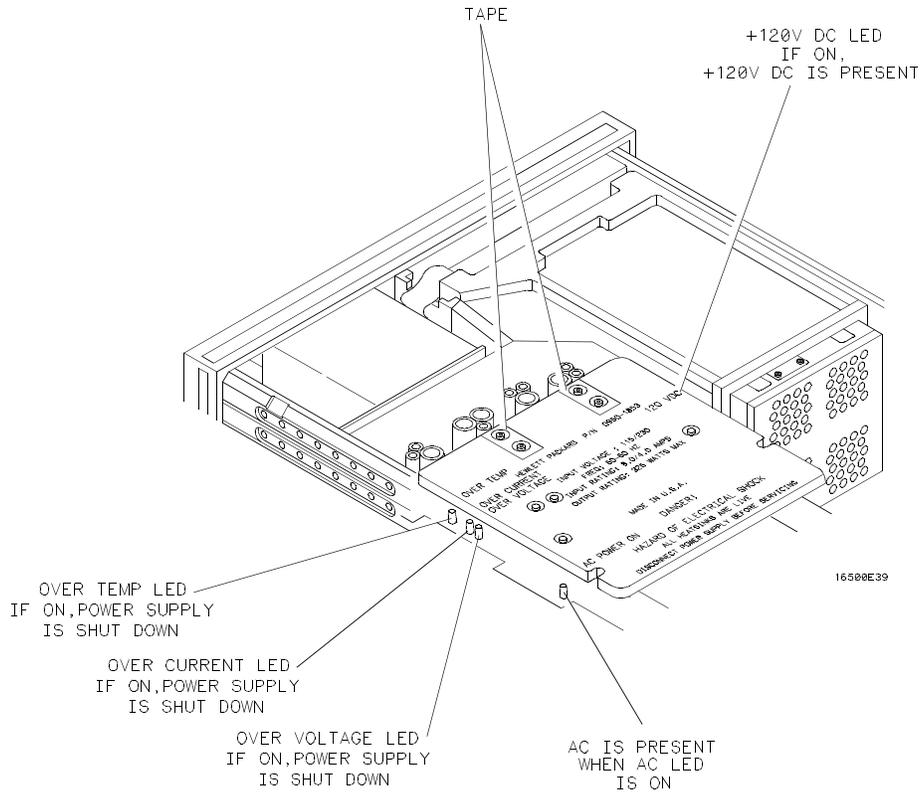

Figure 6-32. Power Supply Check
3. Using figure 6-32 as a reference, check the power supply LEDs.
Tape is put over the power supply screws that are close to the top cover. If the tape is missing or damaged and the top cover is installed, the power supply might shut off. If the power shuts off after installing the top cover, check the tape on the power supply, shown in figure 6-32.